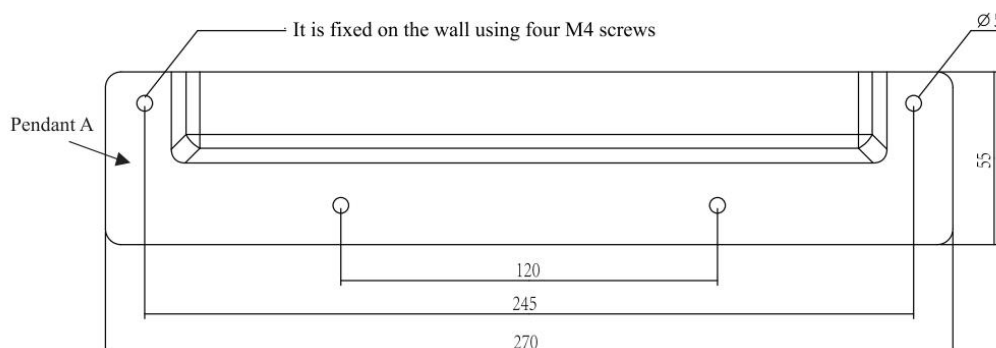

Fig. 2.1 Pendant A is fixed to the wall
1)On any flat and firm wall that is not covered by rain in the room, use four M4 self-tapping screws (or expansion screws) to fix the hanging piece A horizontally on the wall, as shown in Figure 2.1: